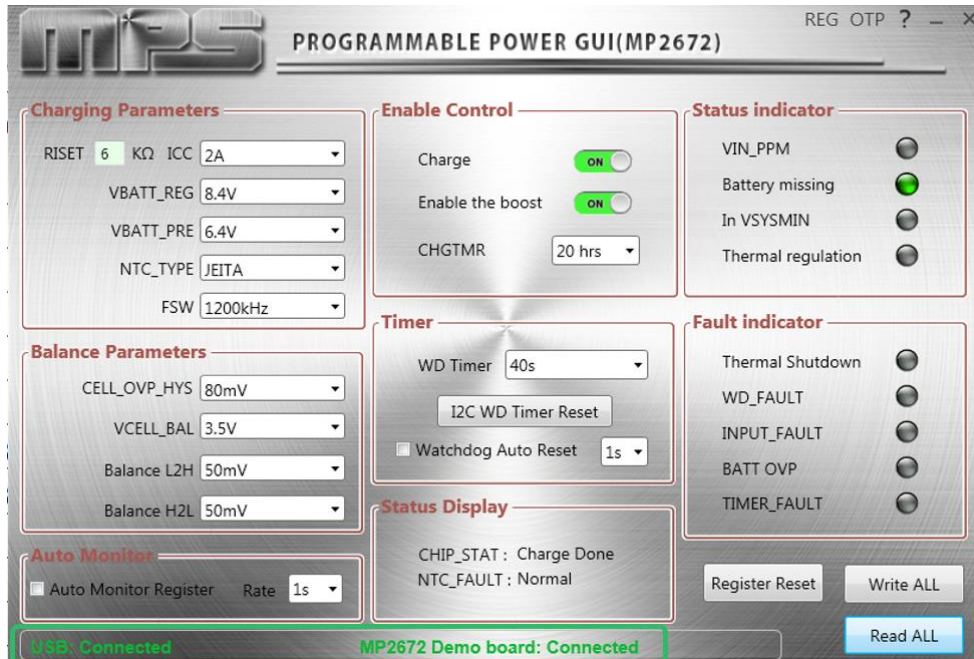

Figure 7: EVKT-USBI2C-02 and MP2672 Demo Board Show as Connected
- If the connection is successful, both the EVKT-USBI2C-02 and MP2672 Demo Board statuses will show as "Connected" (see Figure 7).
- 2. Click the “Read All Registers” button to read the I²C register values. The default values are displayed (see Figure 7).